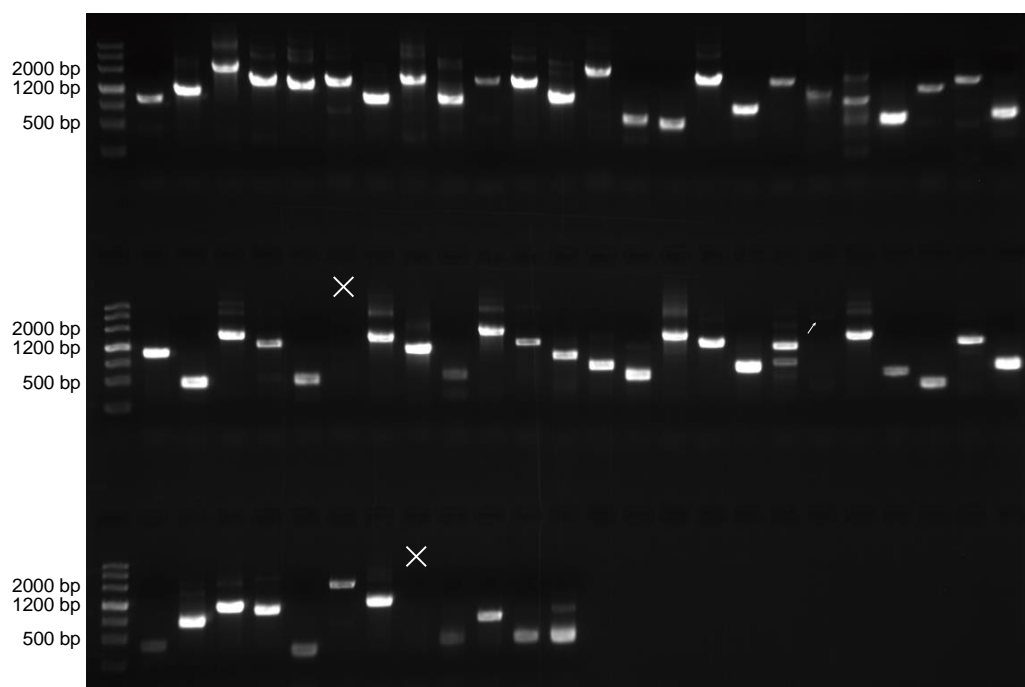

Figure 2. Schematic diagram of the PCR amplification result of NPCLs.
- 4) Use a 1% TAE agarose gel to check the second round of PCR products (Figure 2).